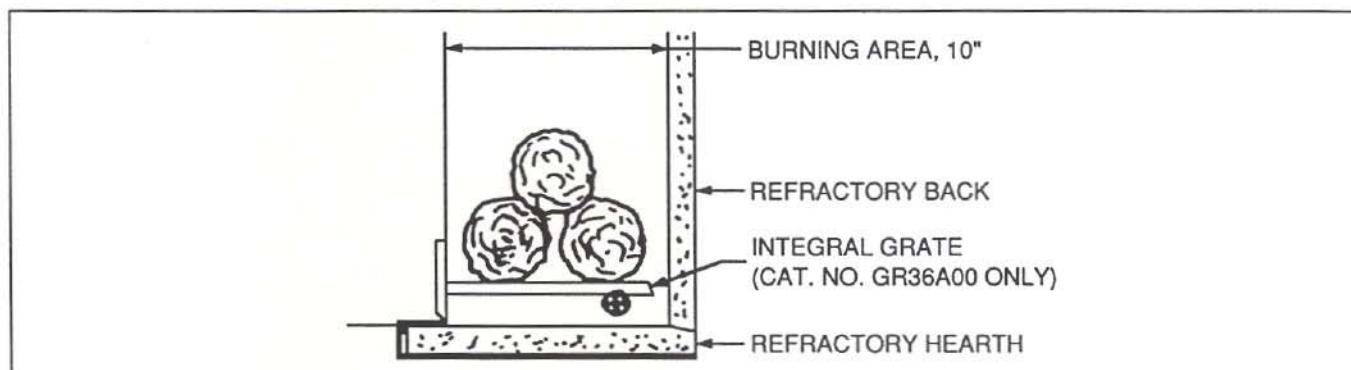

Figure 19
E. GRATE. The factory installed Integral Grate must be used to hold the logs from falling out of an open fireplace and to allow air to pass between the burning logs. It is important to keep the fire off the hearth and to allow the ashes to collect beneath the fire, thereby forming a layer of additional heat protection. See Figure 19. Use only Catalog Number GR36A00 Integral Grate for replacement.
H. SETTING THE FIRE. Check the flue damper to be sure it is fully open. Place crumpled or twisted paper under the Grate. Loosely arrange kindling or small pieces of wood to form a layer above the paper. Place three logs in a rough pyramid as shown in Figure 19, being sure to allow free air space between the logs. Small sticks of wood may be used to separate the logs. **NOTE: When heated the first time, the temperature of the fireplace must be raised radually, to prevent moisture within the refractory from causing cracks, and to allow the binders in the insulation to dissipate.**